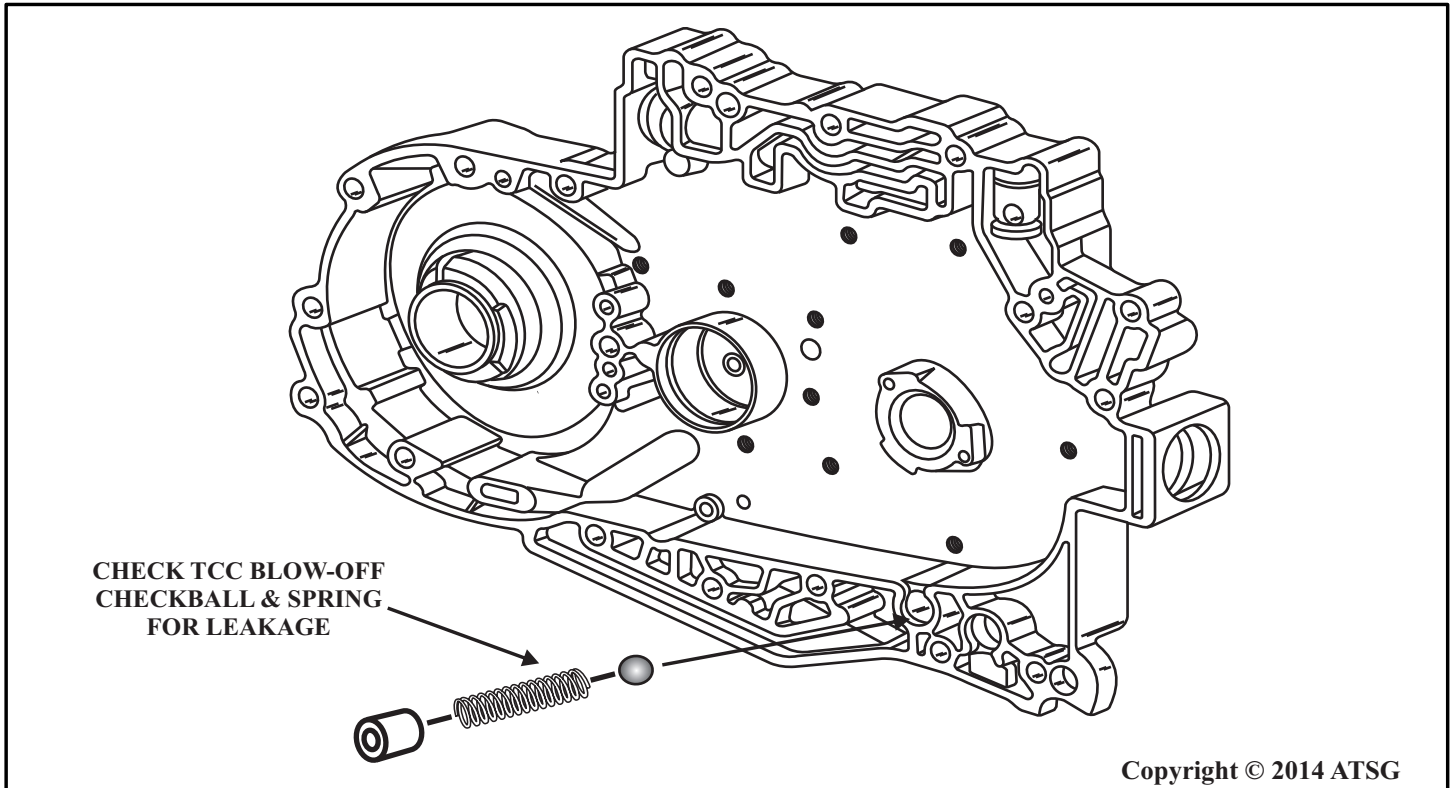

Figure 5
- 8 - Check the TCC Blow-Off Ball in the channel plate to insure it can seat, Figure 5